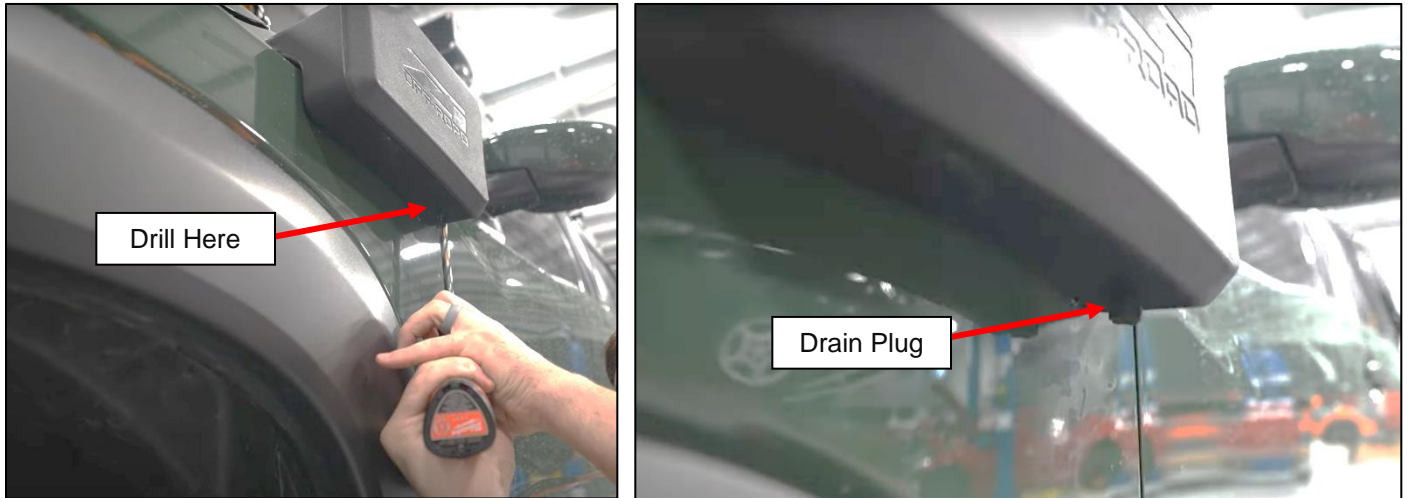

Figure 23
38. This step is optional if you want a Weep Hole or Drain Plug on your Z1 Snorkel. Drill a 3/8" Hole in the bottom of the Snorkel. Once drilled, insert the supplied Drain Plug in the new hole, or it can also be left open as a weep hole. If you don't want a Drain Plug, skip to *Step 39*. *Figure 23*.